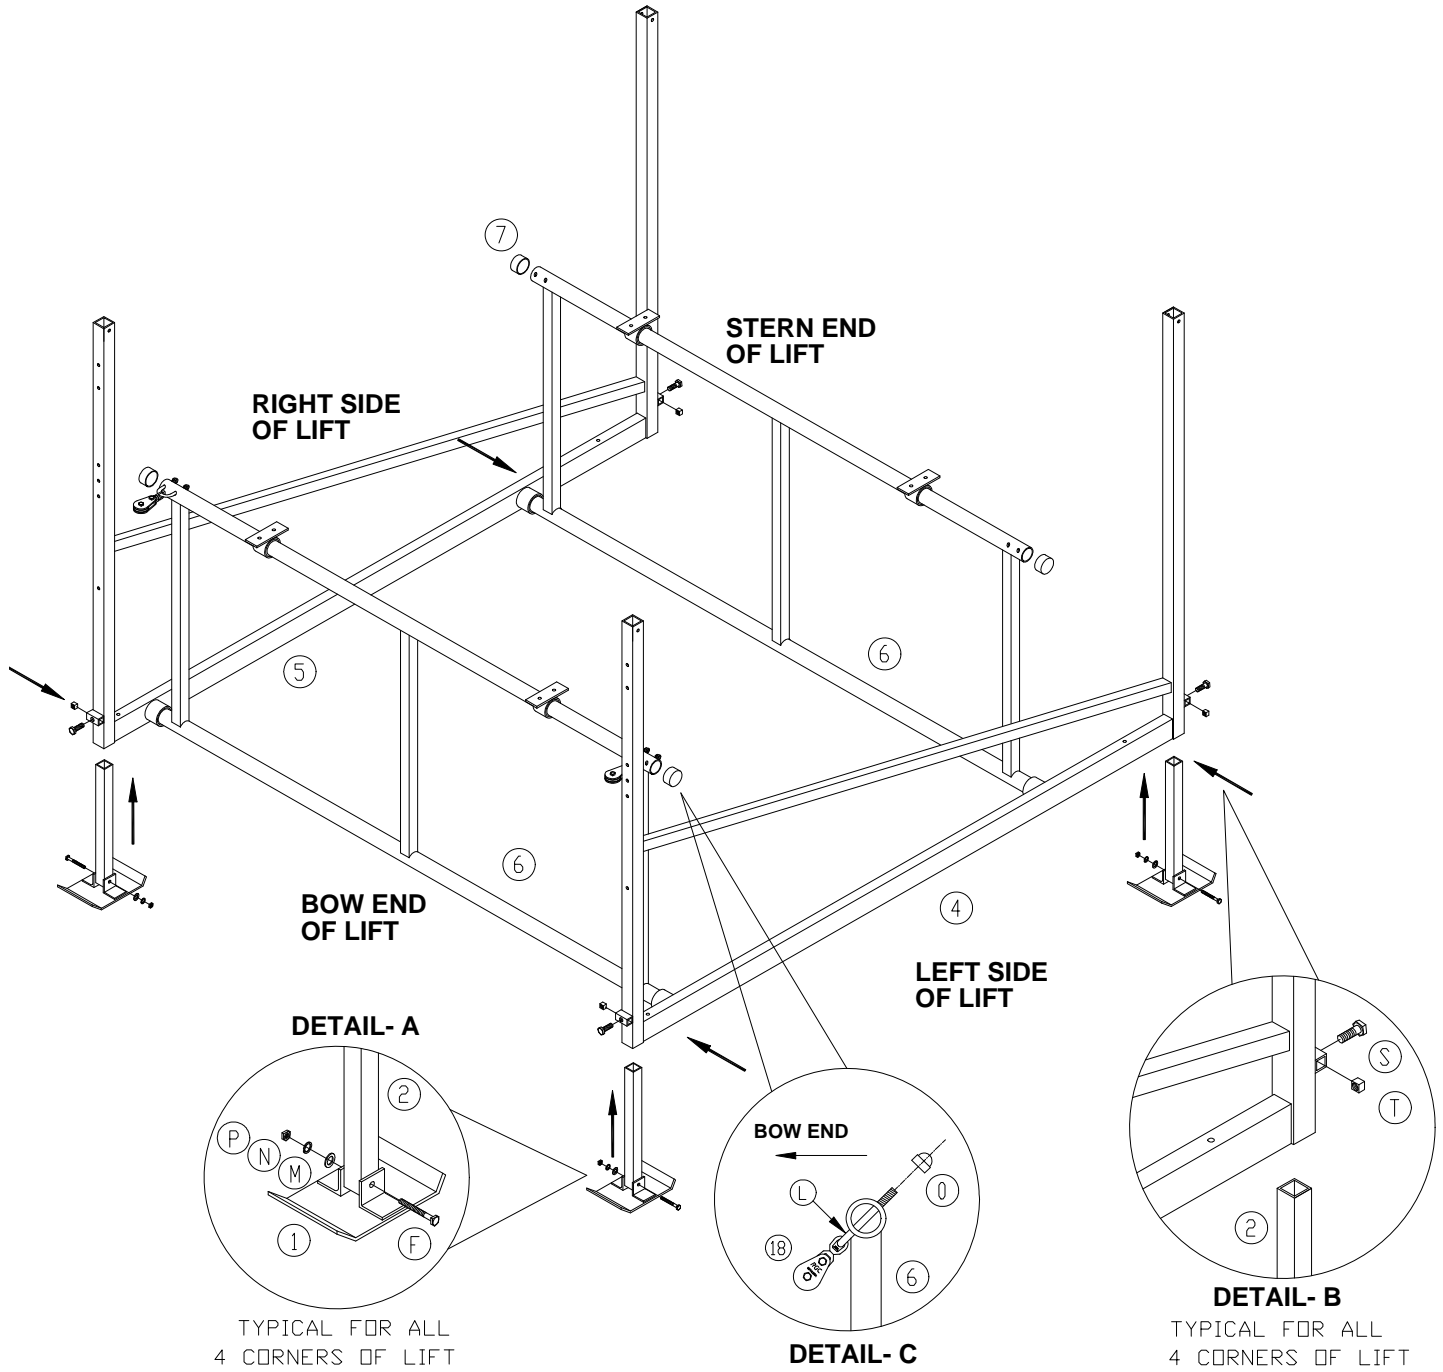

Figure 3-1.
1. Refer to **Figure 3-1**. Attach foot plate to extension leg as shown in **Detail A**. Repeat procedure for all four foot plates.
1. Refer to **Figure 3-1**. Insert plastic caps onto the tube ends containing the pivot bunk mounting brackets of the lifting arms.
1. Insert a U-bolt through the swivel of the polymer block. Install the U-bolt on each end of the lifting arm assemblies. Ensure U-bolts are angled downward facing the bow end when the lifting arms are in the upright position, as shown in **Detail C** of **Figure 3-1**.
1. Refer to **Figure 3-1**. Adjust extension legs to height required to keep lift level in its operating position. Tighten with lock screw at all four corners of lift as shown in **Detail B**.